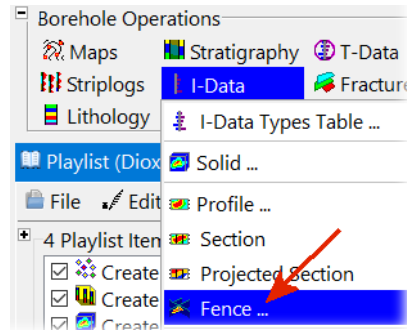

Figure 85
- Select the Borehole Operations / I-Data / Fence program (Figure 85).